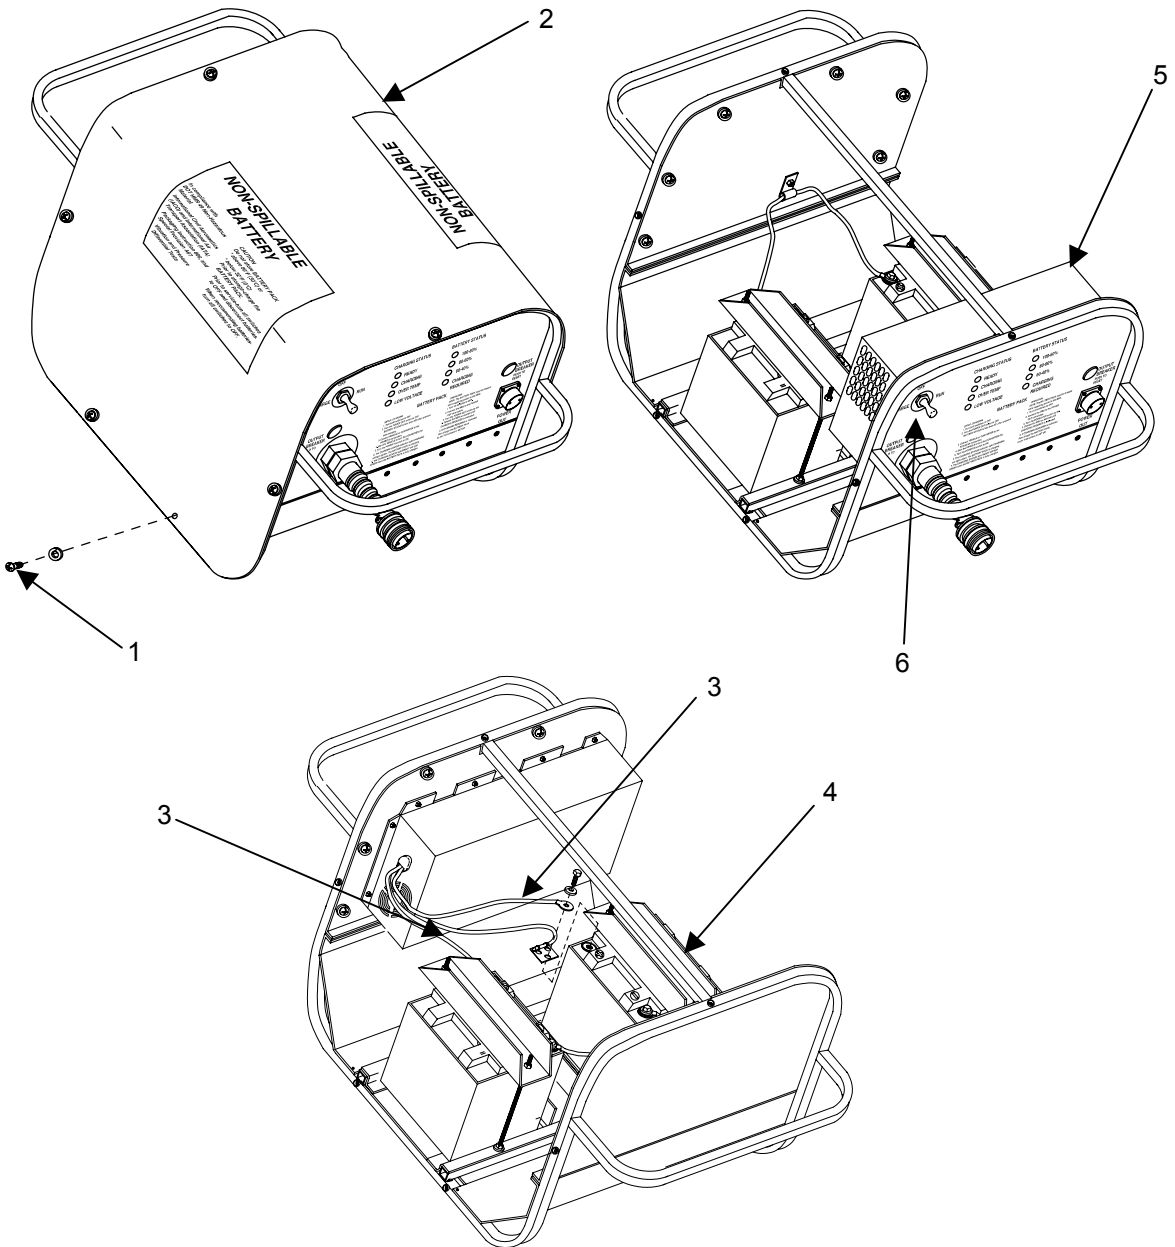

Figure 2. Test the Battery Charger
1. Remove the screws (**figure 2, item 1**) retaining the battery pack cover (**figure 2, item 2**), and remove the cover.
2. Tag and disconnect the battery charger wiring (**figure 2, item 3**) from the batteries (**figure 2, item 4**).
3. Use electrical tape to insulate the terminal end of each battery charger wire (**figure 2, item 3**). Leave the end open to allow access to the terminal.
4. Connect the battery charger (**figure 2, item 5**) to an approved power source, and set the 3-Position switch (**figure 2, item 6**) to CHARGE.
5. Set a multimeter to read DC voltage, and check the voltage between the two charger wire (**figure 2, item 3**) terminals. The charger (**figure 2, item 5**) should deliver approximately 24 to 28 VDC. Replace a charger with low or no voltage.
6. Disconnect the battery charger (**figure 2, item 5**) from the power source.
7. Remove the electrical tape from the wire (**figure 2, item 3**) terminals, and connect the charger wiring to the batteries (**figure 2, item 4**) as tagged.
8. Install the battery pack cover (**figure 2, item 2**), and retain with screws (**figure 2, item 1**).